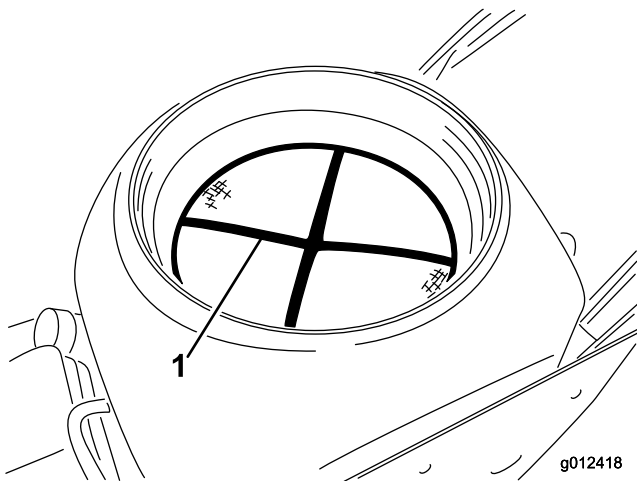

Figure 30
2. Remove the paint tank strainer (Figure 30) and clean with water.